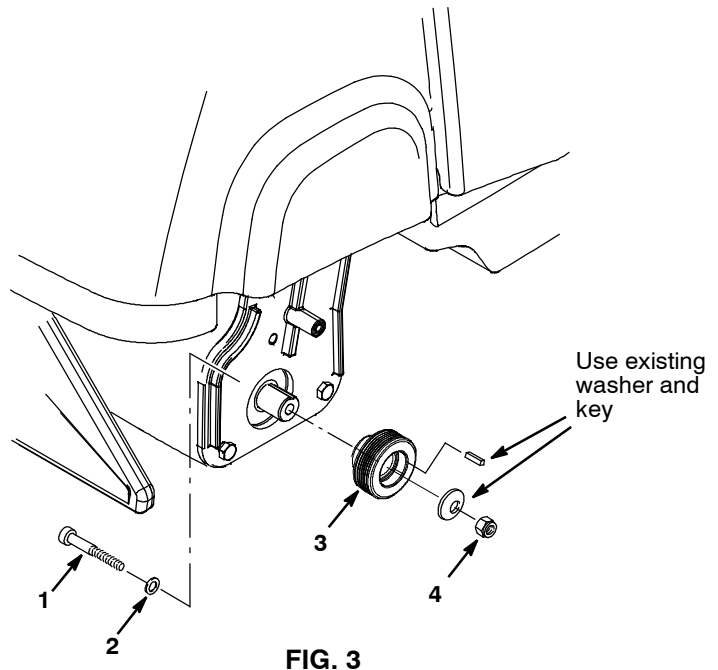

FIG. 3
4. Reassemble the brush pulley assembly using the new pulley and hardware supplied from kit (Figure 3).